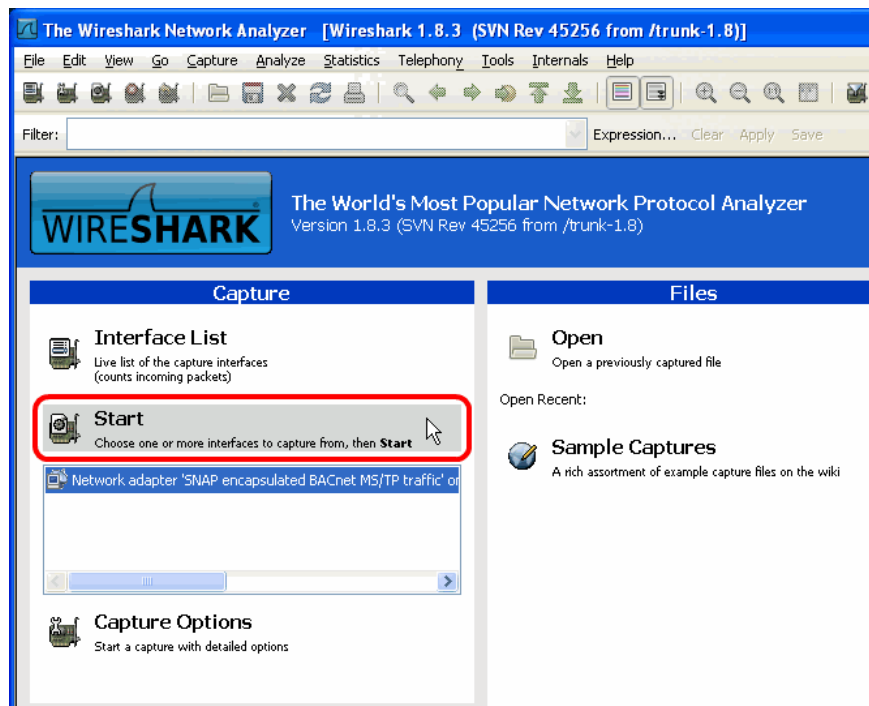

Figure 66: Start Remote Capture in Wireshark.
2. Click the **Start** button as shown in Figure 66.